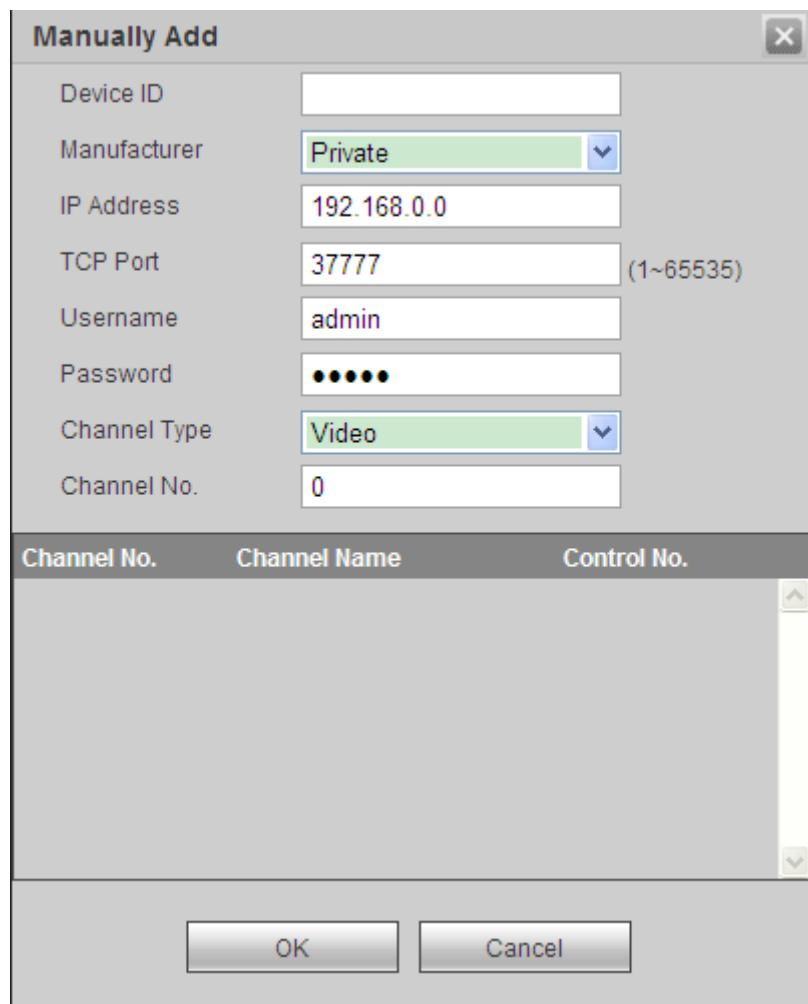

Figure 3- 52
Step 1. Click Manually Add. System displays Figure 3- 52.